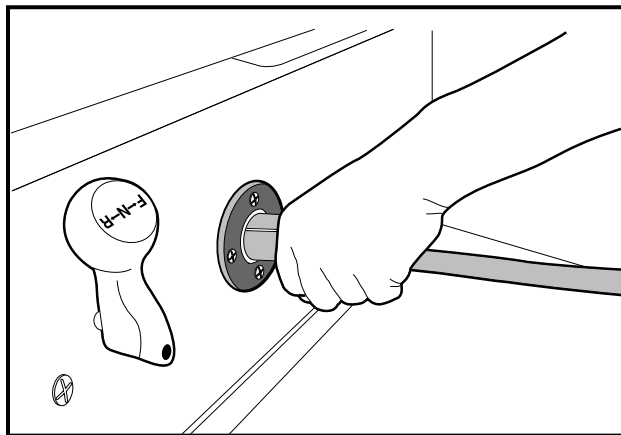

Figure 15 Correct Insertion of Charger DC Plug
- Do not rock or bend the plug. To connect the charger plug to the vehicle receptacle, grasp the plug handle and push the plug straight into the receptacle (Figure 15, Page 30).
Insert the charger DC plug into the vehicle receptacle. The charger will turn on two to ten seconds later (**Figure 15**).